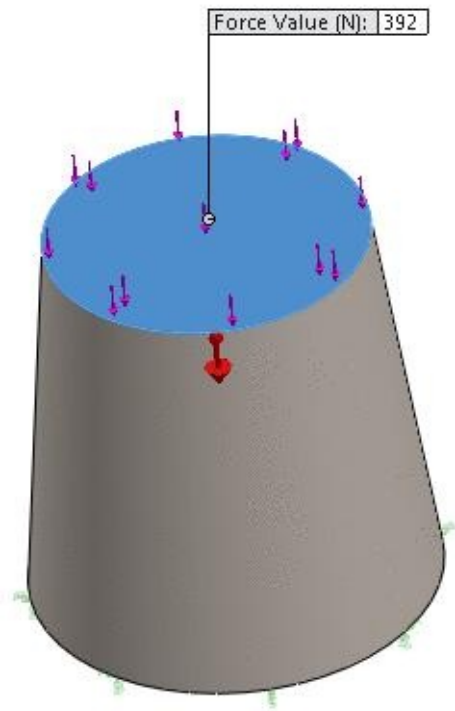

Figure-48. Force applied on top face
- Select the top face of the model and specify the value of force as **392 N**; refer to Figure-48.